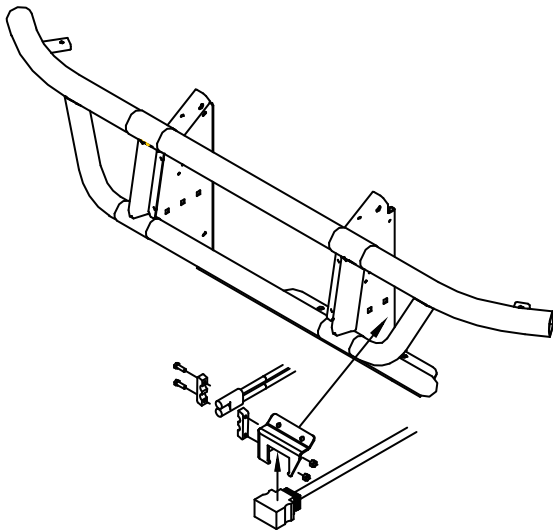

Figure 13. Vehicle Connections
15. Mount the Black 13 Pin Control Harness Connector to the top tube of the bumper on the Driver's Side using self-tapping bolts and **MSC12815** Control Harness Mounting Bracket. (See Figure 13 for an example) Drilling is required.